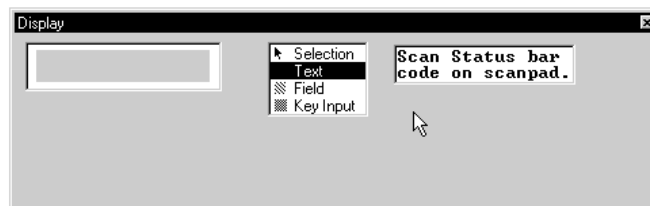

Figure 4-72 “Instruct3” Handler Message
45. At the **Display** window, type **Scan Status bar** on the top line, and type **code on scanpad.** on the second line (Figure 4-72).